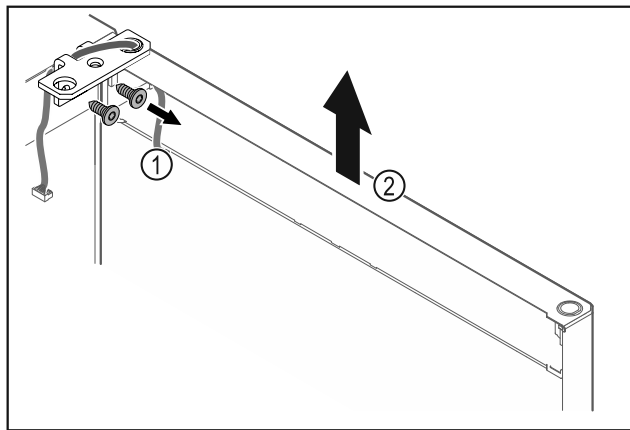

Fig. 27
- Unscrew the hinge Fig. 27 (1).
- Lift the door with the hinge straight up by Fig. 27 (2) roughly 200 mm and take it off.